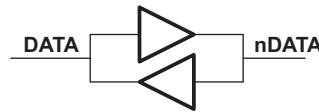
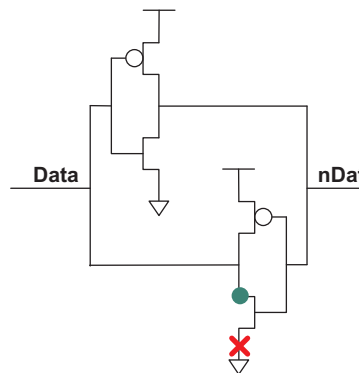

Figure 1. Latching (Memory) Element
Figure 2. Latching Element at a Transistor Level
Figure 1 and Figure 2 show a latching memory element. In Figure 1, data is driven onto the left port of the latch (and in SRAM, the complementary data is written onto the right port). The data is latched in the cross-coupled inverters which store the data until the next time data is written. Figure 2 shows the same cross-coupled inverters at a transistor-level. This basic scheme is common to SRAM cells and flip-flop designs.
- A hard error is caused by a real error in the circuit – whether a design bug or a process defect. Because the hard error is related to a real circuit error, the circuit can be expected to fail repeatedly in the same manner. As an example, consider a highly resistive contact at the red X in Figure 2. When Data is driven high (and nData driven low), the latch is fully functional with both inverters driving at full strength. However, if Data is driven low (and nData driven high), the bottom inverter (driving Data) is weakened by the resistive contact and if the contact is resistive enough the latch will not hold the low value.
**Table 1. Results of Defect in Figure 2**
As an example, consider a neutron interacting with the drain node of the transistor driving Data in Figure 2 (shown with a green dot). Let one of the spallation nucleons pass through the critical volume near the drain of the nmos transistor so that the drain can capture some of the separated charge.
**Table 2. Results of Soft Error in Figure 2**